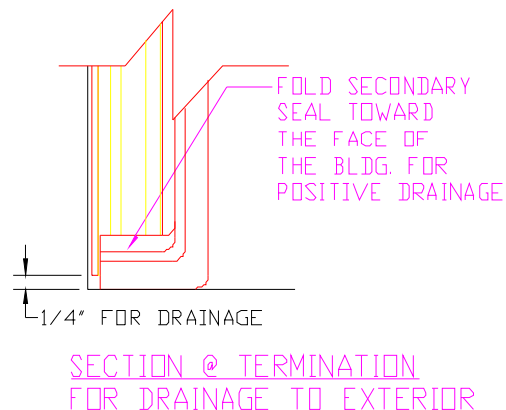

Figure 16
**STEP 29.** Place the face seal, or face seals, into it/ their installed position, and beginning 1/4" from the bottom of the joint, insert the selected face seal's arrows into the corresponding track in the base members and subchannel (see Figure 16).